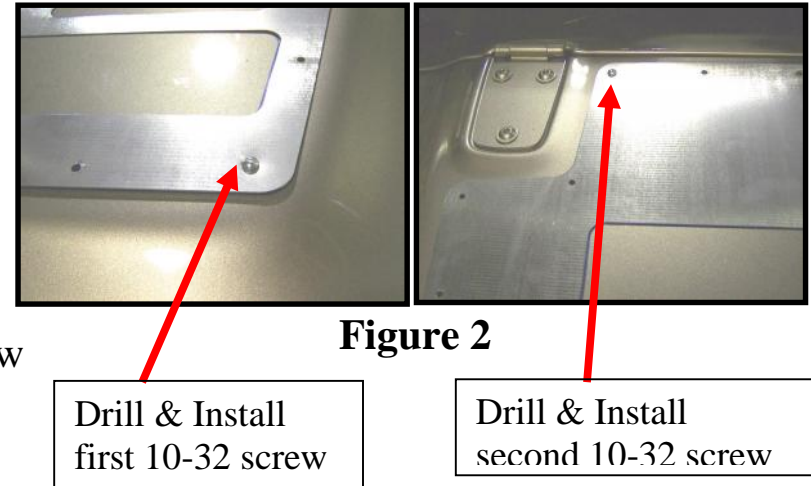

Figure 1
Step 3 – Place steel template in the center of hood as seen in (Figure 1). ****Picture may vary from your Template.**** Visually make sure the holes in the template are centered with the holes for the windshield tie down bracket.